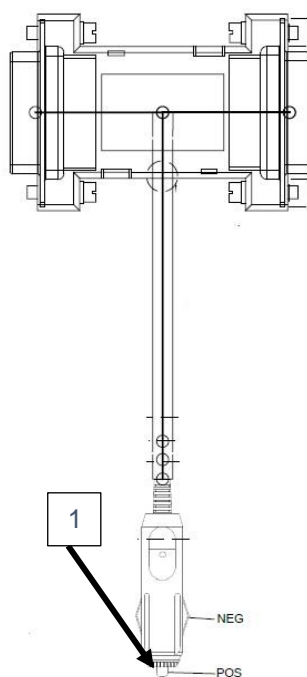

Figure 190
On CNH and some Gleaner combines it is necessary to have an Aux 12-volt power supply as the combine does not have the provision to supply 12 volts to the display. An additional cable is supplied to provide the 12 volts from the cigarette lighter socket. Figure 190
2. Check the fuse at the end of the power harness. The fuse can be accessed by taking the top off the cigarette light plug, 1, Figure 190.